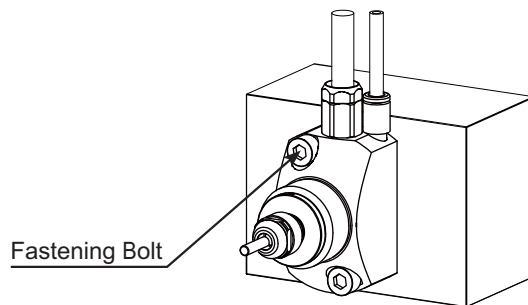

Fig. 27
- (1) Insert the motor spindle housing diameter section into the machines tool plate bore.
- (2) Secure the motor spindle through the counter-sunk holes (2 locations) on the flange face using bolts as shown in Motor S pindle Operation Manual Fig. 2, Fig. 4, Fig. 6 and Fig. 7. Refer to table 1 and Fig. 27.